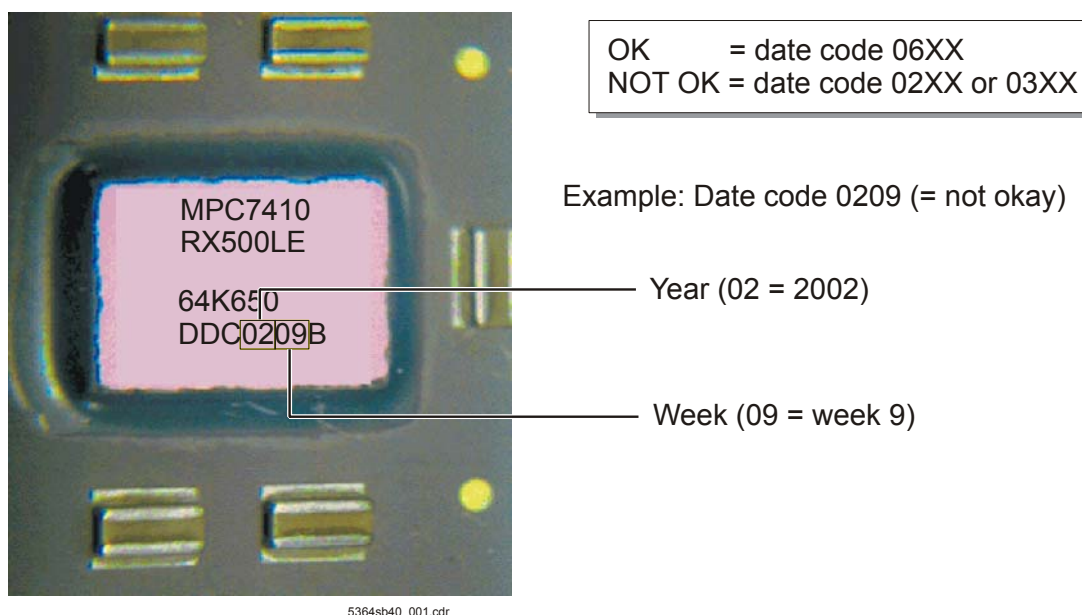

Figure 32: Date code printed on CPU Chip
- (1) At the next service intervention remove the heatsink and thermal conductive tape on the Crius and Themis CPU.
- (2) check the date code which is printed on the Crius and/or Themis CPU chip. Refer to Figure 32.